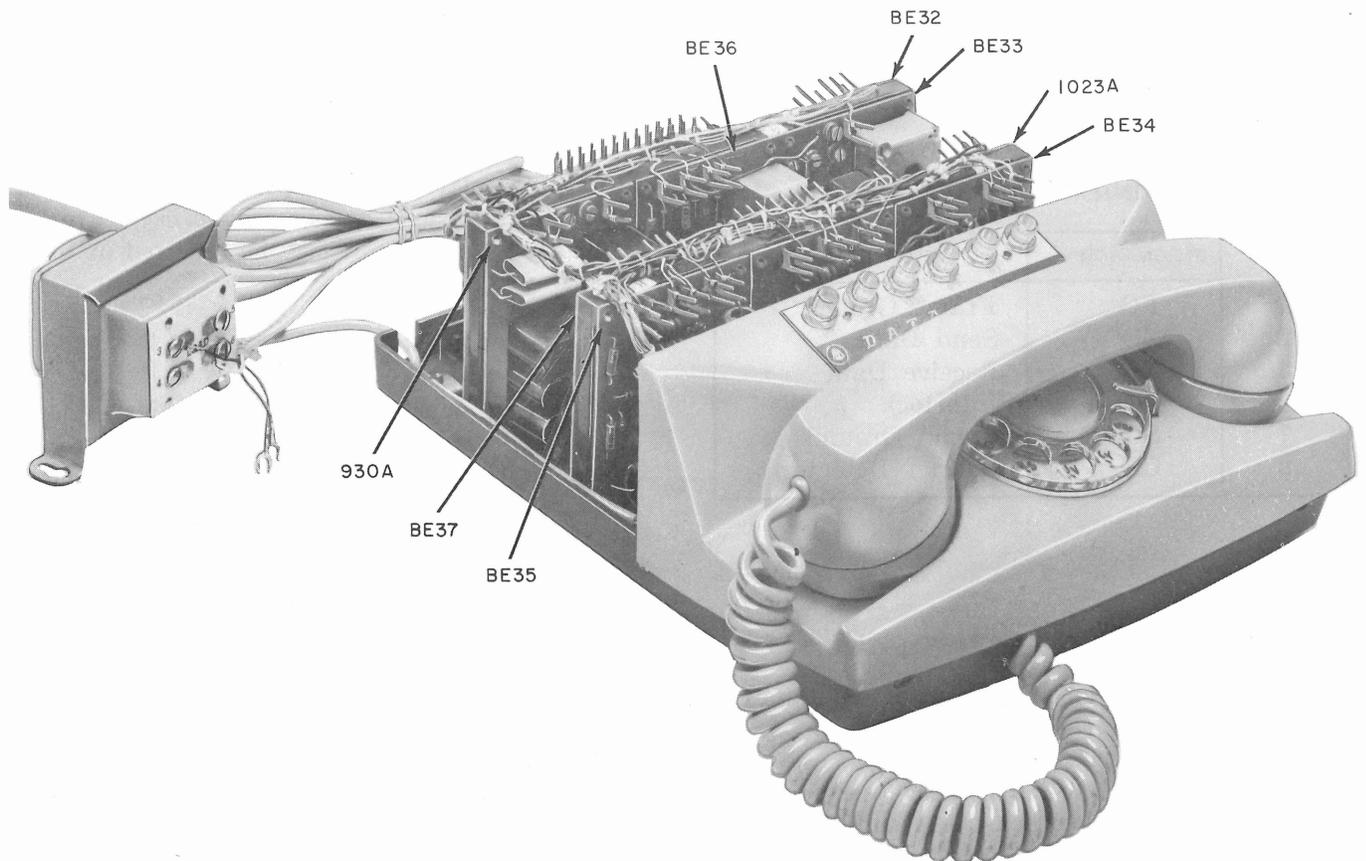

Fig. 3—Data Set 602D-Type, Inside Front View
2.03 An audible ringing signal is provided on the data line by a M1A ringer. The ringer volume control is located at the lower left front of the data set (Fig. 3).
2.07 All Data Sets 602D-type contain an apparatus unit, a bandpass filter, and an equalizer. In addition, each set contains six modular-type circuit packs. Refer to Fig. 3 for the physical location of each of these modules. Their designations and a brief description of their functions are listed in (a) through (e).